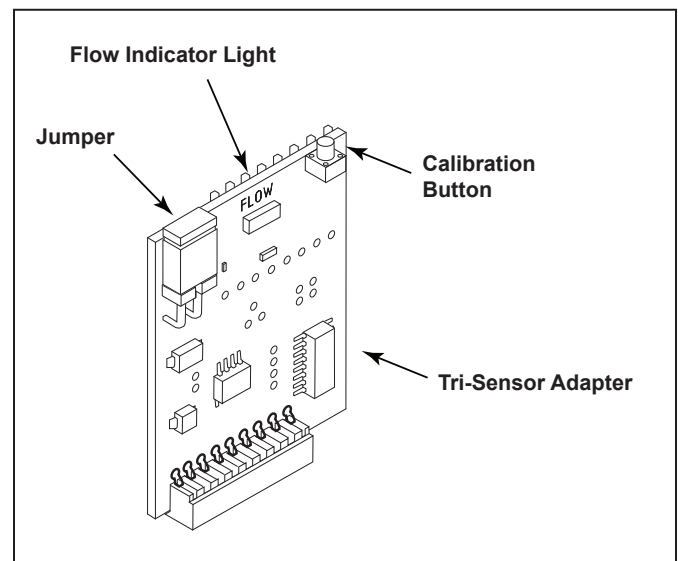

Figure 5. Components of the Tri-Sensor Adapter
If the chlorine generator power interface board firmware is 02110A10, remove the jumper from the tri-sensor adapter, see Figure 5. All other chlorine generator power interface board firmwares and AKC13 front boards require the jumper.
- Wait a minimum of four (4) minutes to stabilize the temperature readings of the tri-sensor.
- On the tri-sensor adapter, press and hold the calibration button for five seconds until the "Flow" indicator is illuminated. See Figure 5.